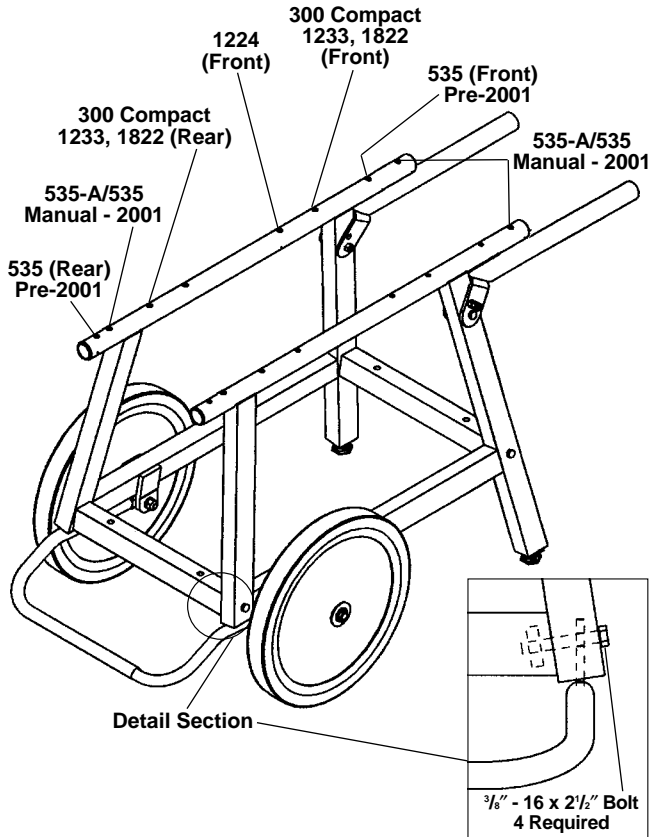

Figure 3 – Stand Assembly
2. Assemble stand with “inside” decals located towards the inside of the stand (Figure 3).
3. Insert stand stop tabs into bottom of the legs as shown in the detail drawing. Use the four (4) 3/8"-16 x 2 1/2" hex bolts to secure the legs to the cross-member. Adjust the two halves of the stand to the proper distance to fit into the rear legs on the stand.
CAUTION For proper balance and operation, RIDGID machines must be mounted through the appropriate holes in the legs (Figure 3).